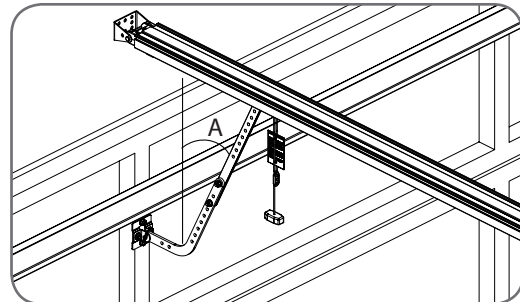

Fig. 23
- a. Assemble the bent and straight arms with bolts and nuts supplied in the accessory pack (Fig. 23). Always use both bent and straight arms.
- b. Connect the assembled arm to the bracket and the disengaged trolley with clevis and snap pins. The angle "A" must be more than 10° (Fig. 23).